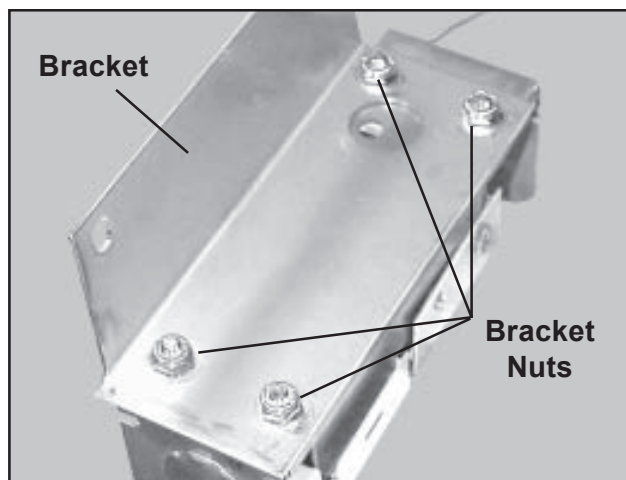

Figure 128. Bracket/Thermostat Nuts
13. With a Phillips screwdriver and a 3/8-in. wrench, remove the four screws/nuts that hold the bracket to the thermostat (Figure 128), and separate the two parts.
6. Mount the thermostat to the thermostat bracket with the four screws/nuts removed earlier (Figure 128).